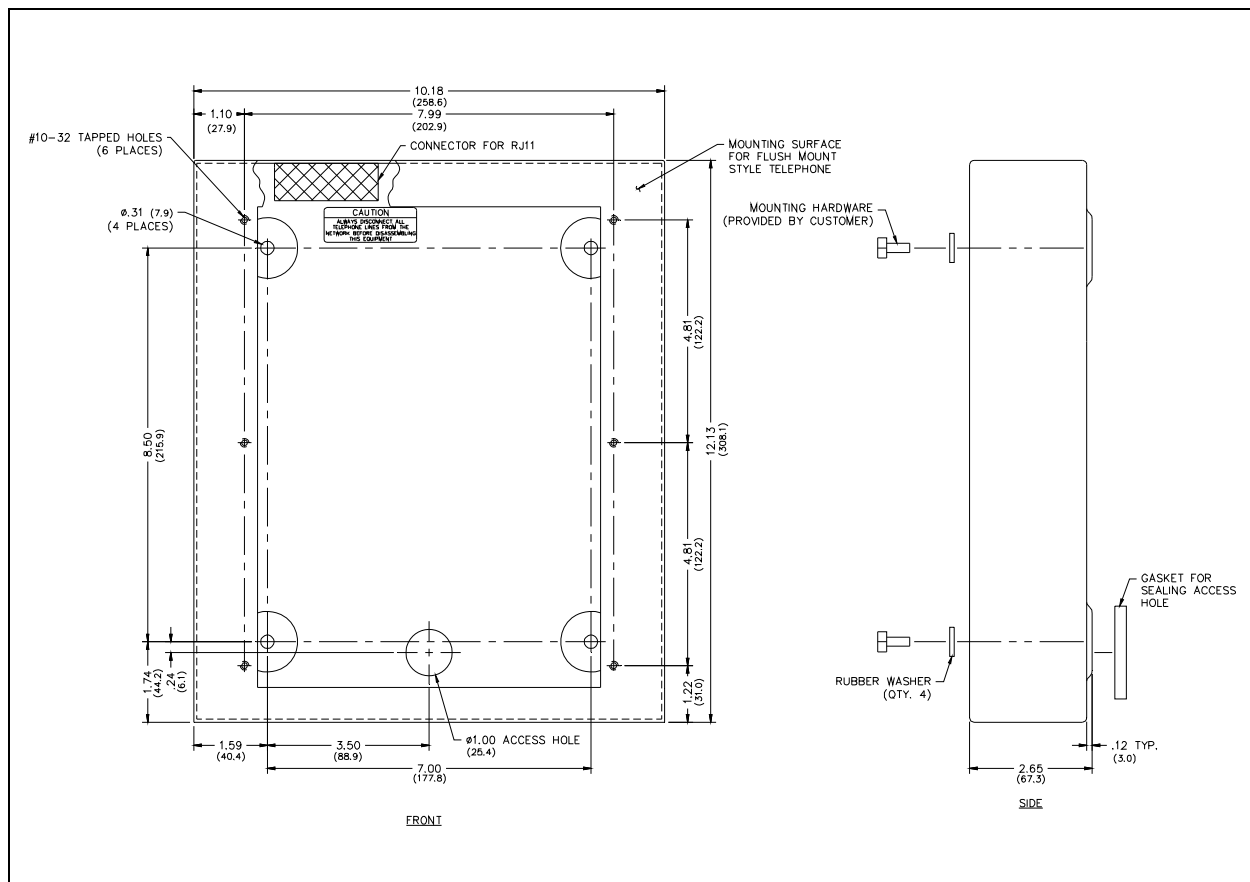

Figure 1. Model 238-001 Surface-Mount Enclosure Outline
2. Mount the enclosure on a flat wall surface using the four 5/16-inch (0.312 in) diameter mounting holes as shown in Figure 1. Four rubber washers are provided to ensure sealing. Mounting hardware is not provided.
3. Secure the CAUTION label to the rear surface of the enclosure, in proximity of the telephone jack. Refer to Figure 1 for recommended location.